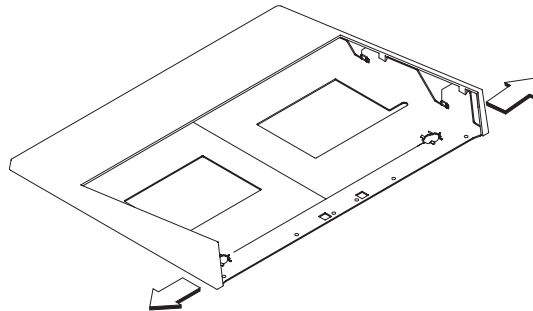

Figure 45. Detaching the fence from the tray
- 1) Spread the rear sides away from the tray as shown in Figure 45.